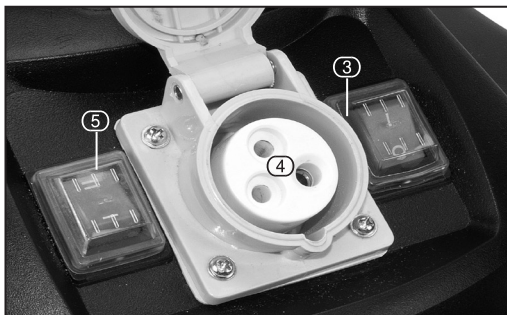

FIG. 12
7.7 POWER TAKE-OFF SOCKET – FIG. 12